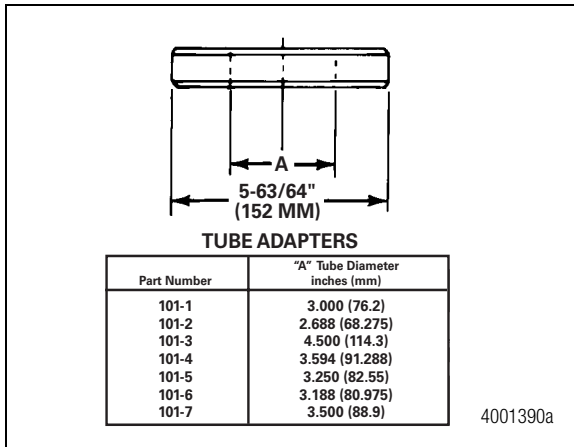

Figure 3.19
- Tube adapter: Measure dimension "A" on the axle tube. The tube adapter inner diameter must be slightly larger than the tube outer diameter. Figure 3.19.